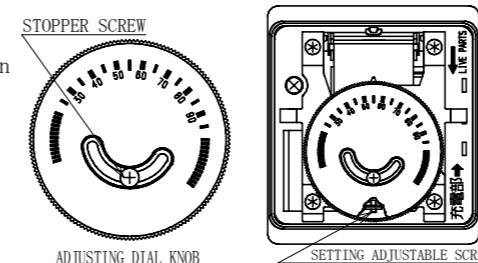

Fig.2
- Adjusting dial knob can be fixed by tightening stopper screw. (See Fig.2)